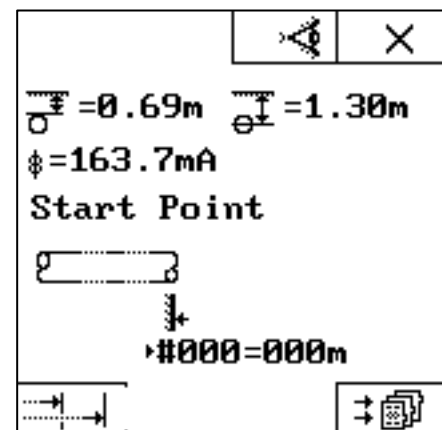
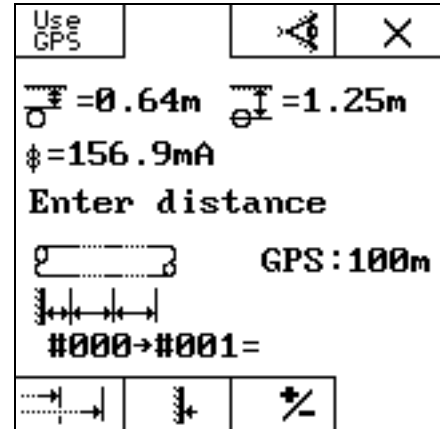

Fig. 6.7 – Store Data screen
Fig. 6.9 – Enter Distance screen
Once a sample has been taken the Surveyor will store this data and will need to tell the system the distance between this and the previous survey point (or Start Point). When you reach the STORE DATA screen in 6.4.4 iii) it will differ slightly from when a Start Point was being entered. Comparing the screen of Fig. 6.9 to that of Fig. 6.7 above, several new keys are now available:
- Use GPS** – Instead of measuring and entering a distance manually, the distance as calculated by GPS can automatically be used by pressing this button. The calculated GPS distance is always shown for information – 100m in Fig 6.9. See section 6.6 for more info on GPS distance.